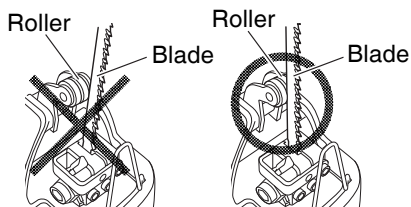

Fig. 4
- Confirm the blade located between the groove of roller. (Fig. 4)